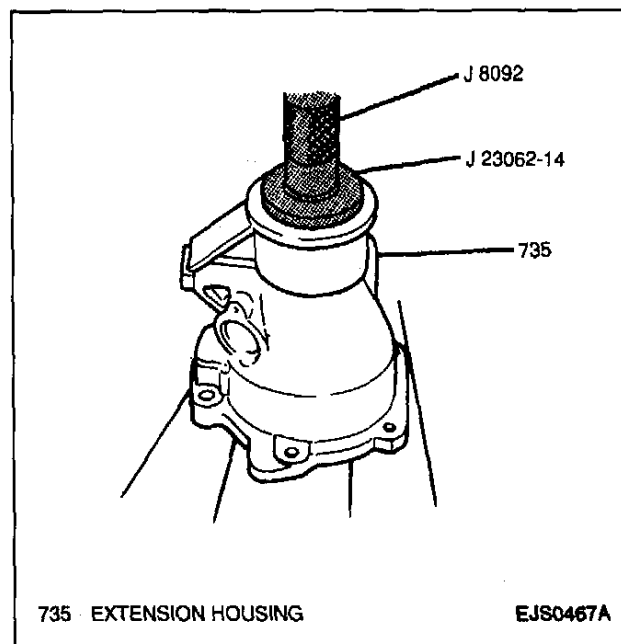

Figure 55—Removing Extension Bearing (3L30, 3-Speed)
17. Extension bearing from extension housing using a J 23062-14 with a J 8092 (Figure 55).